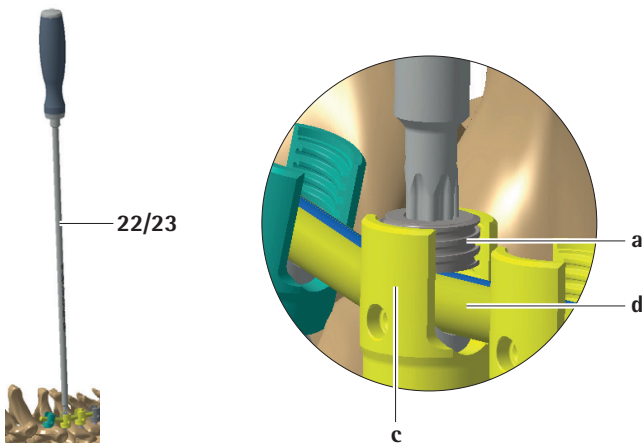

Fig. 31
- ▶ Place set screw a with set screw starter 22/23 aligned axially to the head of the polyaxial screw c and screw the set screw a into the head of the polyaxial screw c from the top until the set screw a contacts rod d, see Fig. 31.